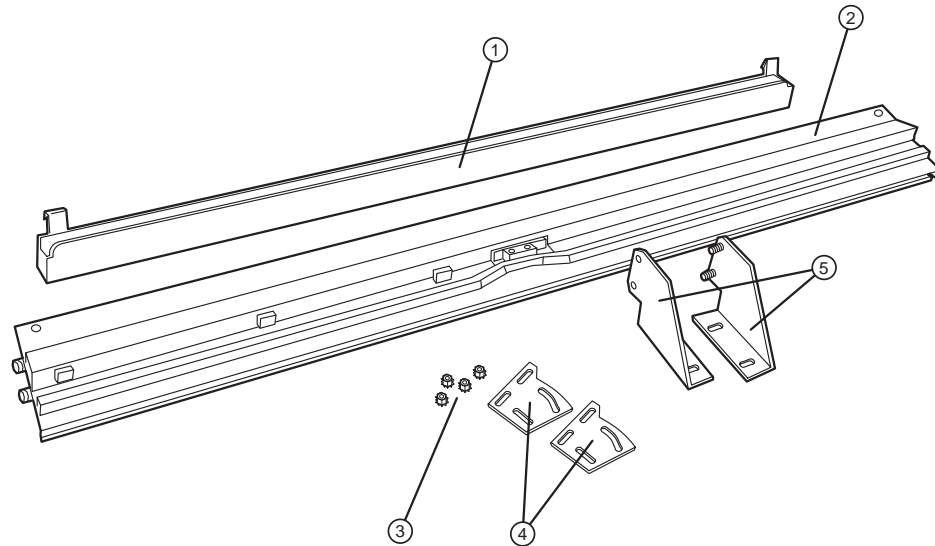
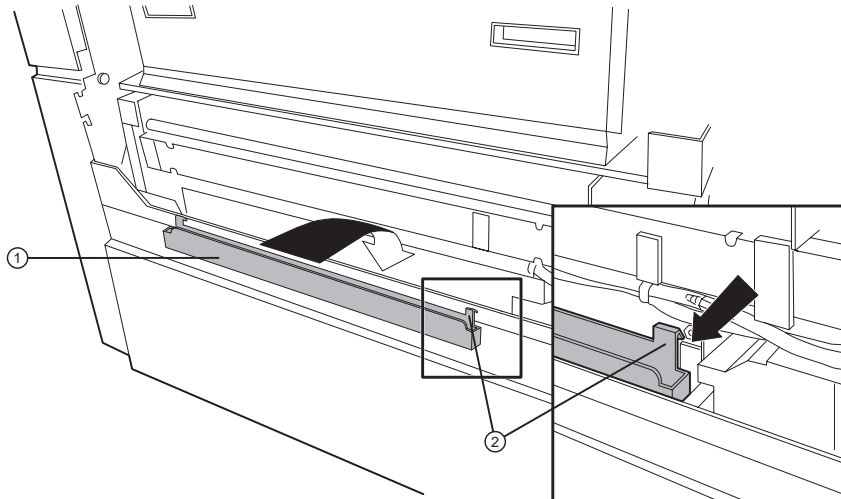

Figure 1-9 Accessories for installing the imagesetter and for attaching the imagesetter to the buffer.
Figure 1-16 Inserting the chafe tray.
The imagesetter comes with an accessory kit. Check the contents of this box against the hardware illustrated in Figure 1-9.
- ①—Take-up light shield. ②—Three shield locking knobs.
10. Insert the chafe tray provided (see Figure 1-9) by hooking the ends into the slots at the bottom and to each side of the exposed area. Refer to Figure 1-16.